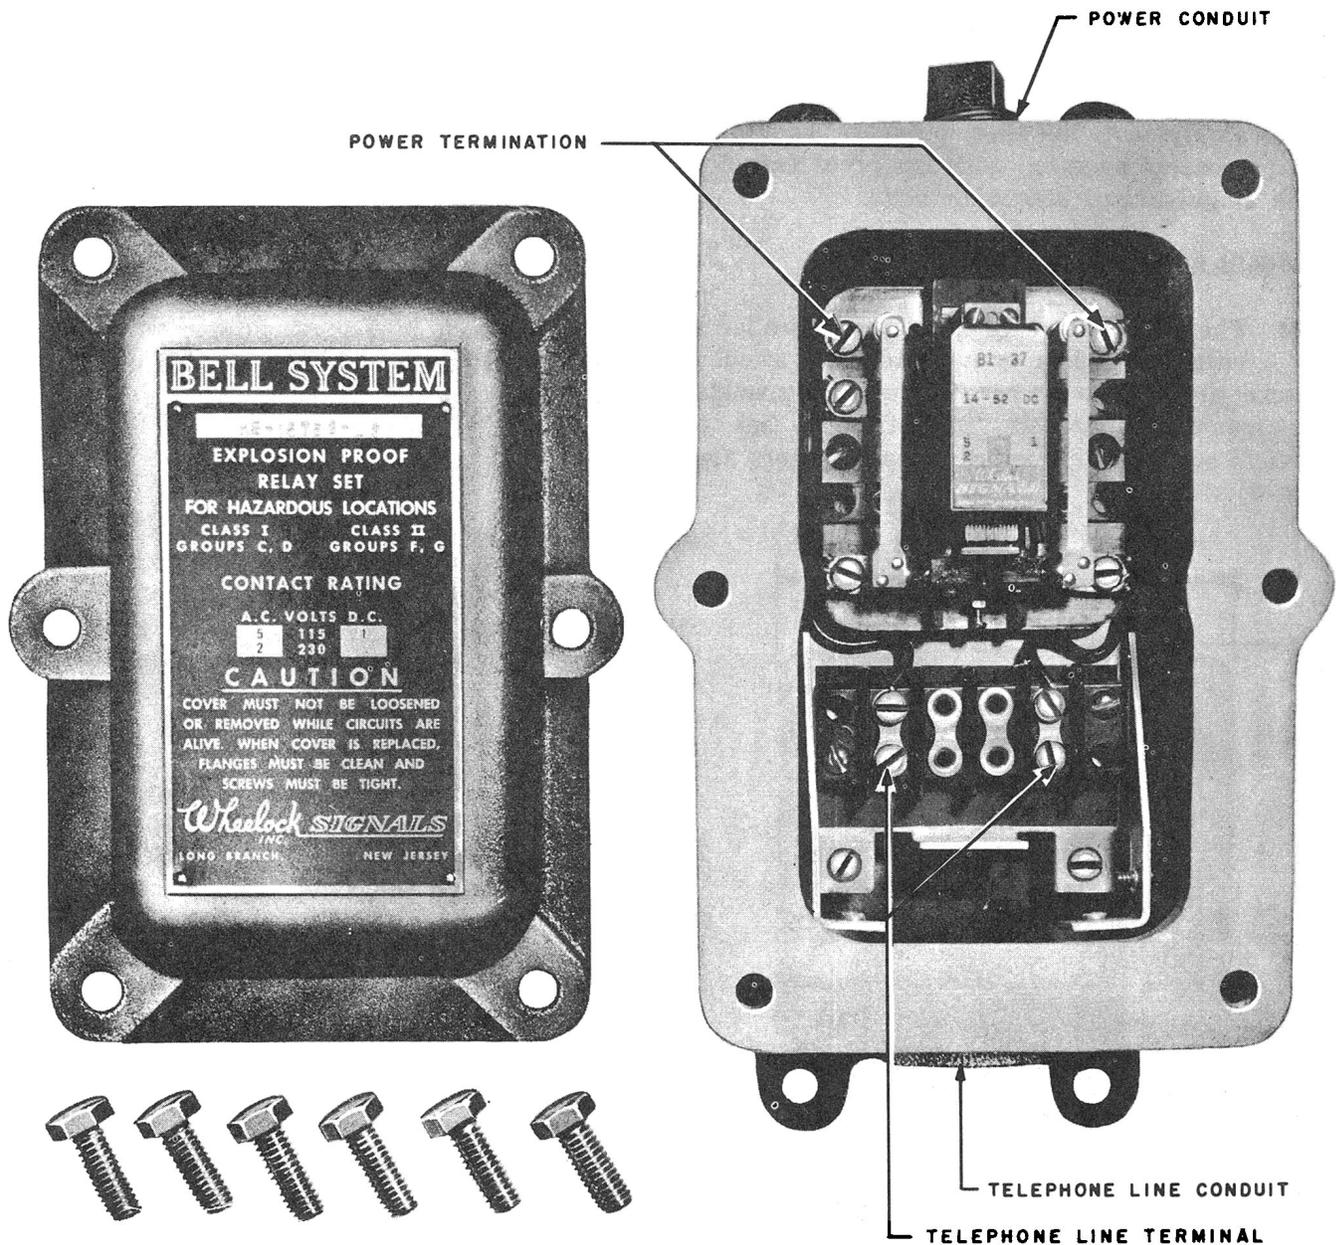

Fig. 3—KS-16763 Relay Set
**2.10** The KS-16763 relay set (Fig. 3) is for indoor and outdoor use at hazardous locations. All the parts are enclosed in a cast aluminum housing. Two threaded openings are provided in the housing for fastening conduits. A plug is supplied with each relay set to close one of the openings when it is not in use.
**2.11** The KS-16763 relay set is available under three list numbers (see Fig. 3).